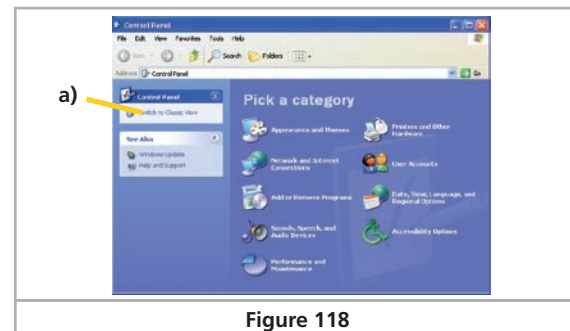

Figure 118
- Now a window similar to the one shown in Figure 118 should open.